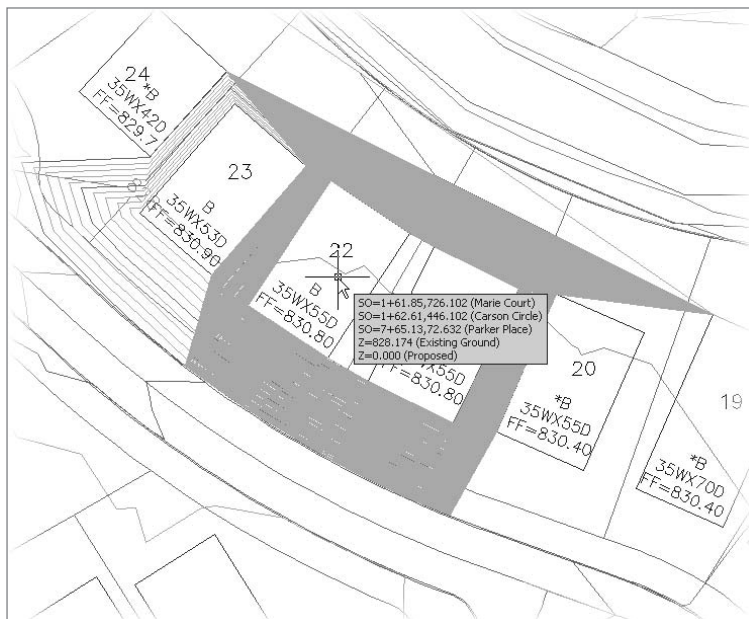

Figure 12.27
3. Pan to the area near lots 20 through 24. Your screen should look something like Figure 12.27. These solid fill areas are actually contour lines dropping to 0, because those pads were missed during the setup of the feature line data.